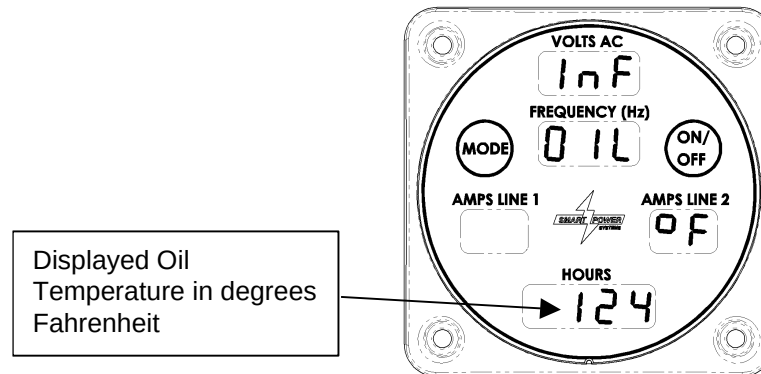

Figure 16 – Temperature Display
- a. When the Command & Control Center is in Normal mode, pressing the Mode switch once will display the oil temperature (reference Figure 16).